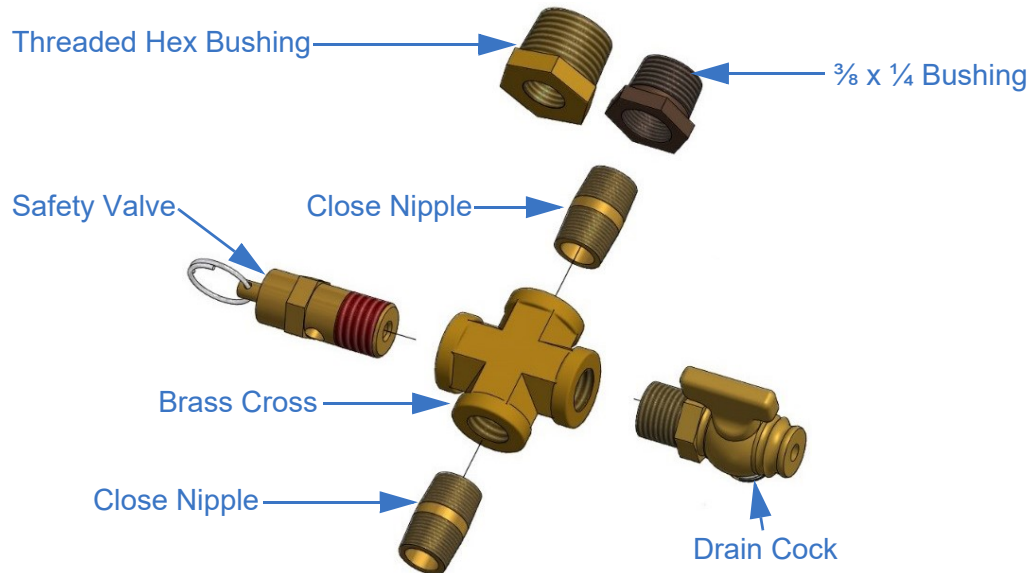

Figure 4-8 Pneumatic System Installation
3. Attach the brass cross to the desired air inlet port with a close nipple (Figure 4-8). Apply PTFE tape to all threaded joints. If necessary, an air hose may be used to connect between the air inlet port and the brass cross, however, the brass cross should be installed as close to the mast as possible to ensure proper drainage.